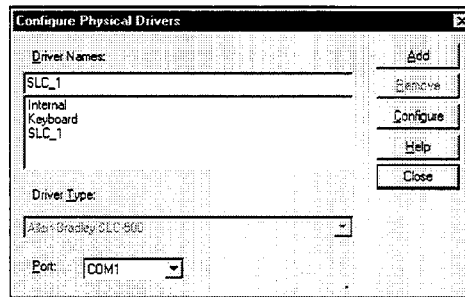

Figure 4. Configure Physical Drivers Dialog Box
2. Select the Drivers command on the Configure menu in the Application Navigator. The Configure Physical Drivers dialog box opens, as shown in Figure 4.